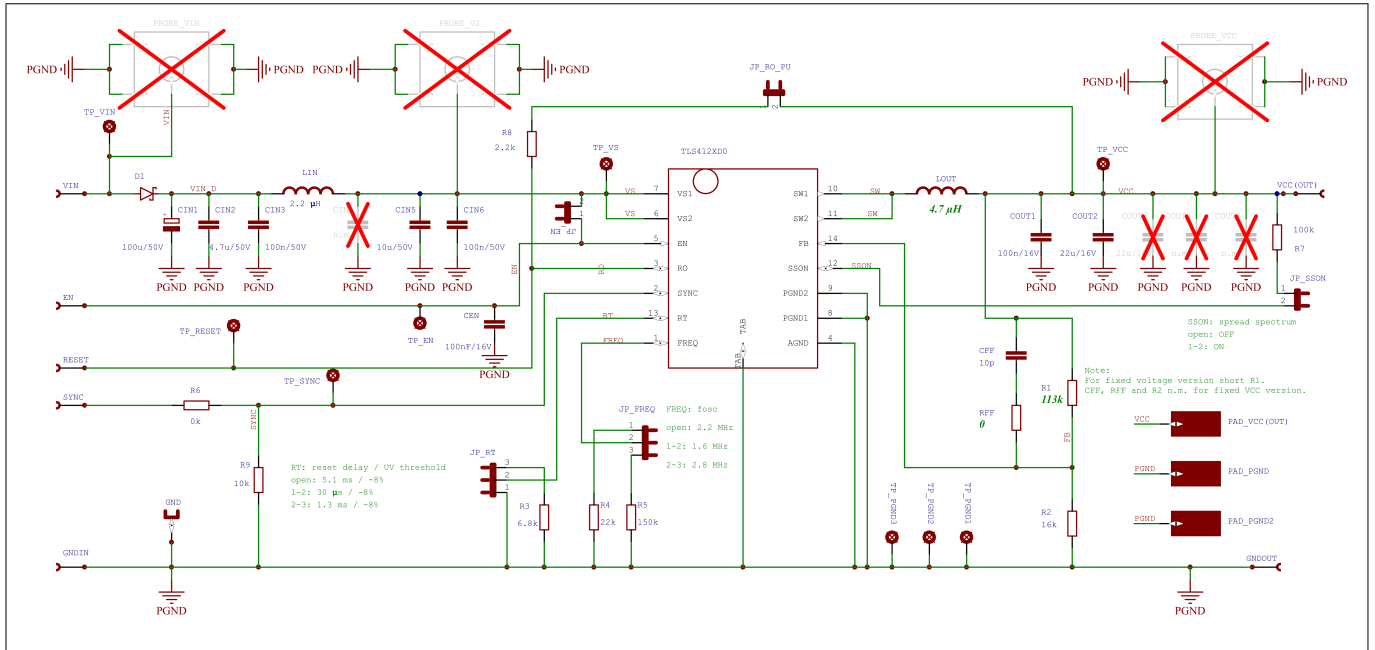

Figure 15 Schematic for adjustable variants in HF configuration
- adjustable variants TLS412xD0EPV in HF configuration, see **Figure 15**